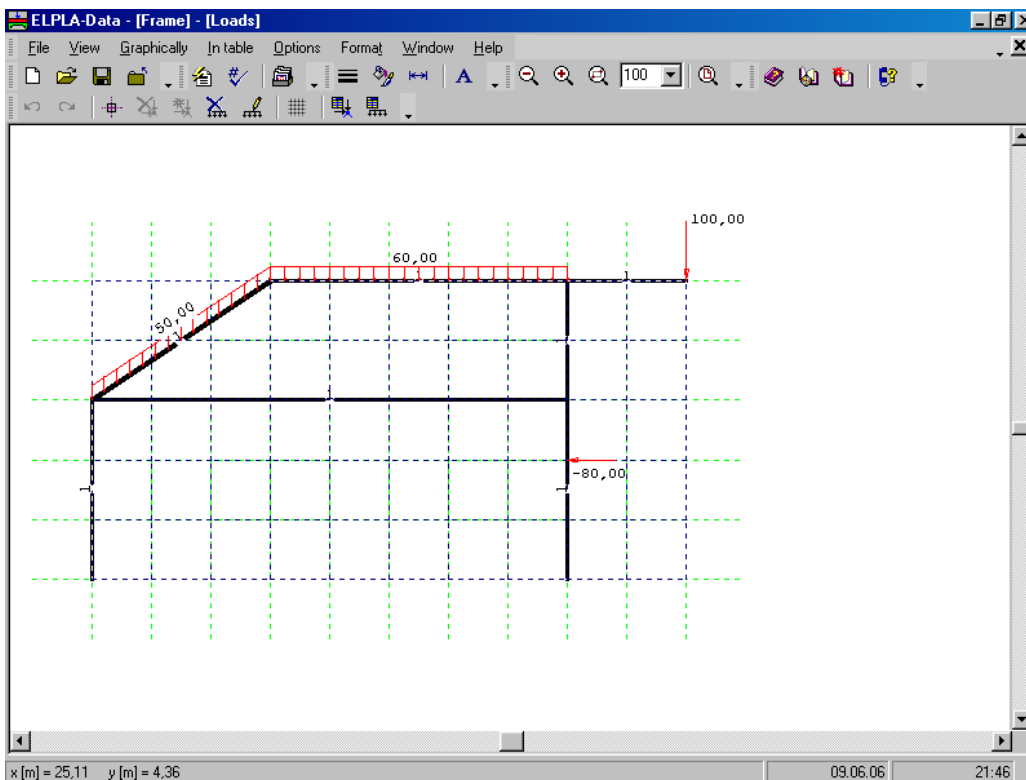

Figure 7-35 Frame load on the screen
Use the same steps to input the uniform distributed load on the inclined member. After you have completed the definition of the load data, the screen should look like the following Figure 7-35.
- Choose " Save loads" command from "File" menu in Figure 7-35 to save the load data
- Choose "Close loads" command from "File" menu in Figure 7-35 to close the "Loads" embedded program and return to the main window of *ELPLA-Data*